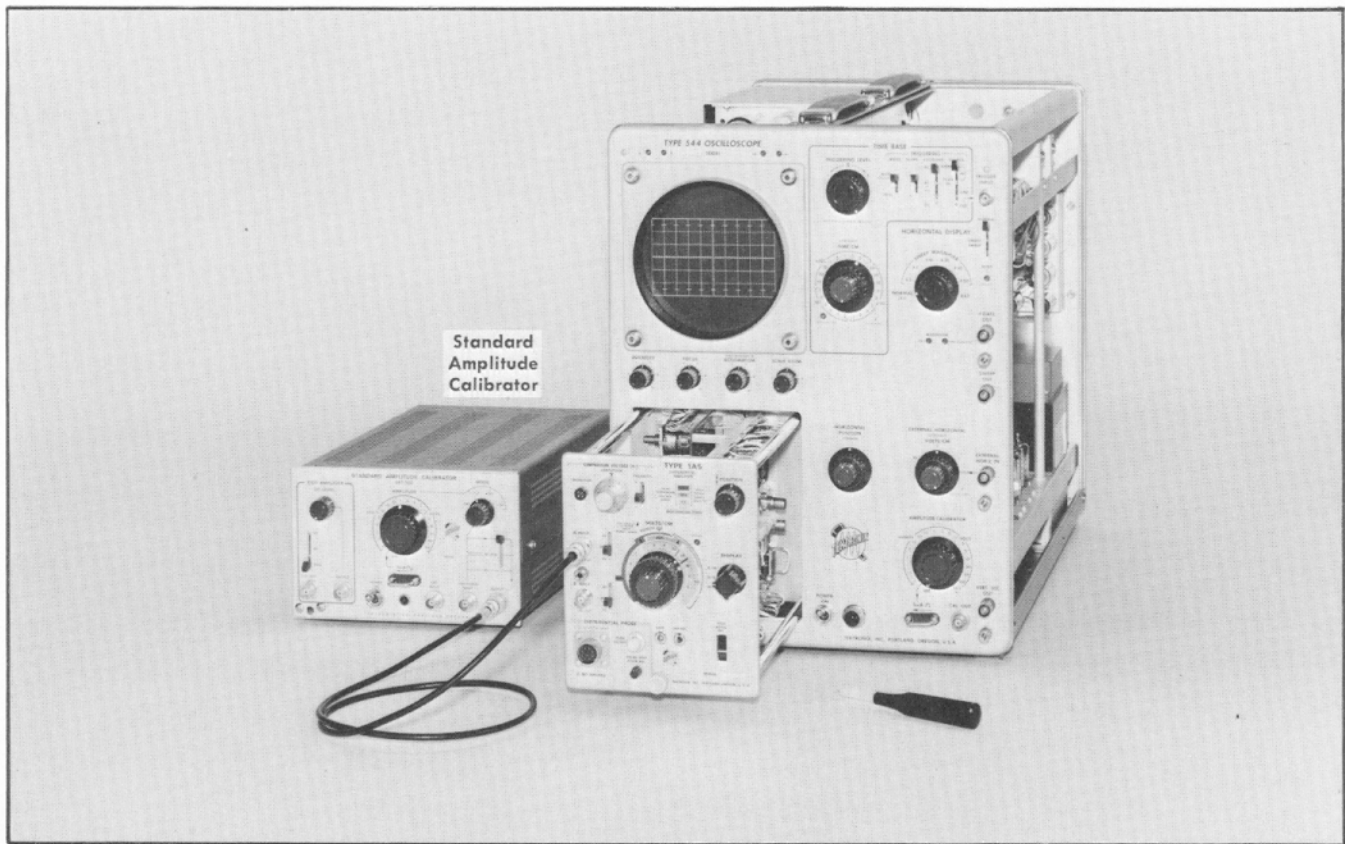
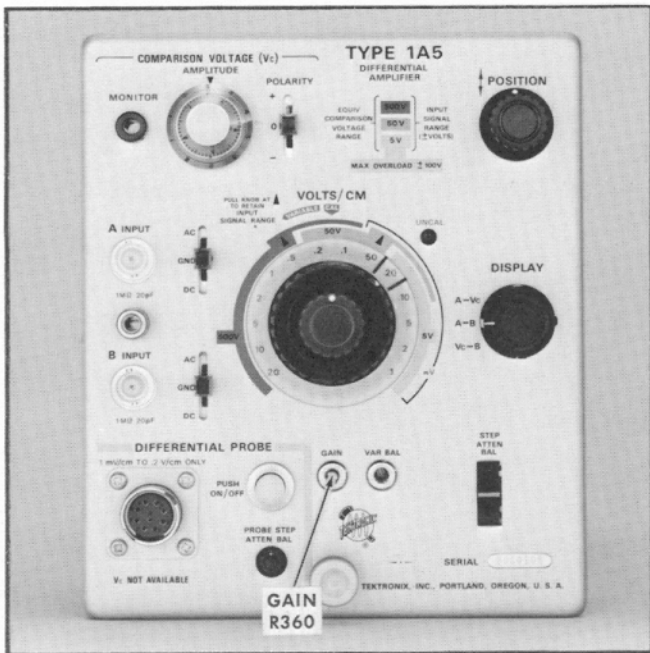

Fig. 6-9. Equipment setup for steps 5, 6 and 7.
Fig. 6-10. Location of adjustment for step 5.
a. Equipment setup is shown in Fig. 6-9. Location of adjustment is shown in Fig. 6-10. UNCAL lamp must remain off during entire procedure.
b. Connect a .1 V-1 kHz square wave output from the Standard Amplitude Calibrator (item 2) to the A INPUT connector, using a coaxial cable equipped with BNC connectors (item 8).
f. ADJUST—GAIN (R360, Fig. 6-10) for exactly 5 cm display amplitude, allowing for trace width. Readjust POSITION control as necessary to center the square wave.
- a. Equipment setup is shown in Fig. 6-9.
- a. Equipment setup is shown in Fig. 6-9, except that the B Input AC-GND-DC control is set to DC.